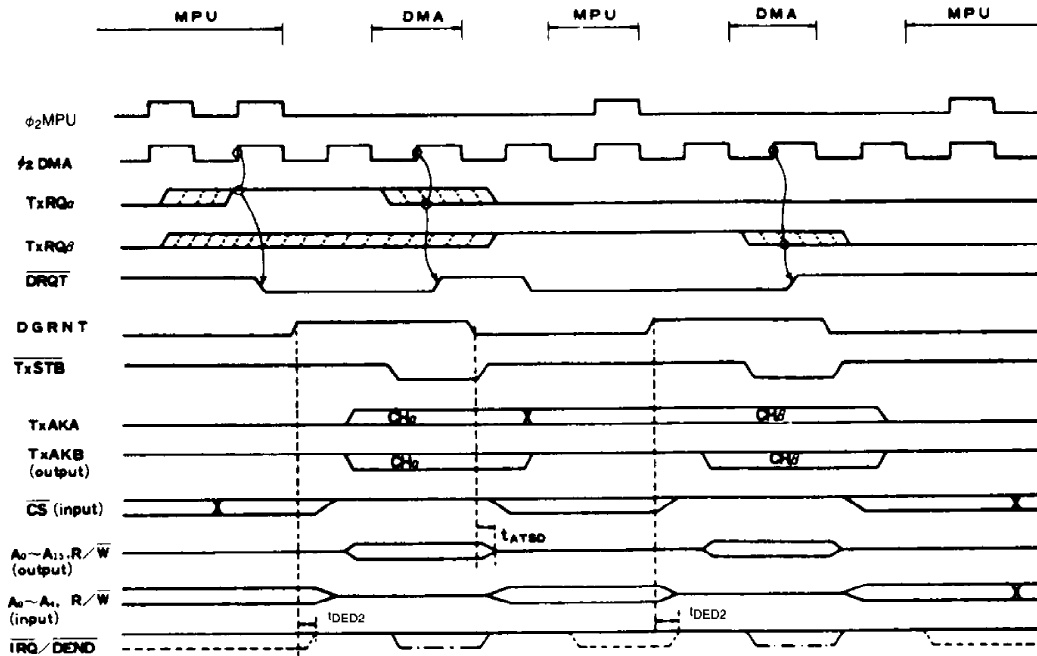
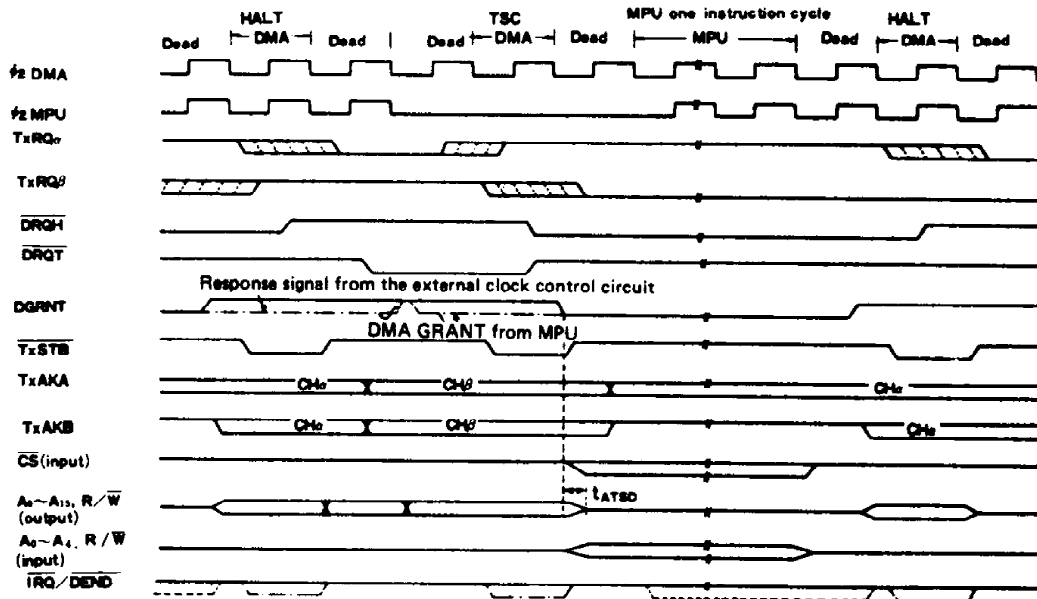
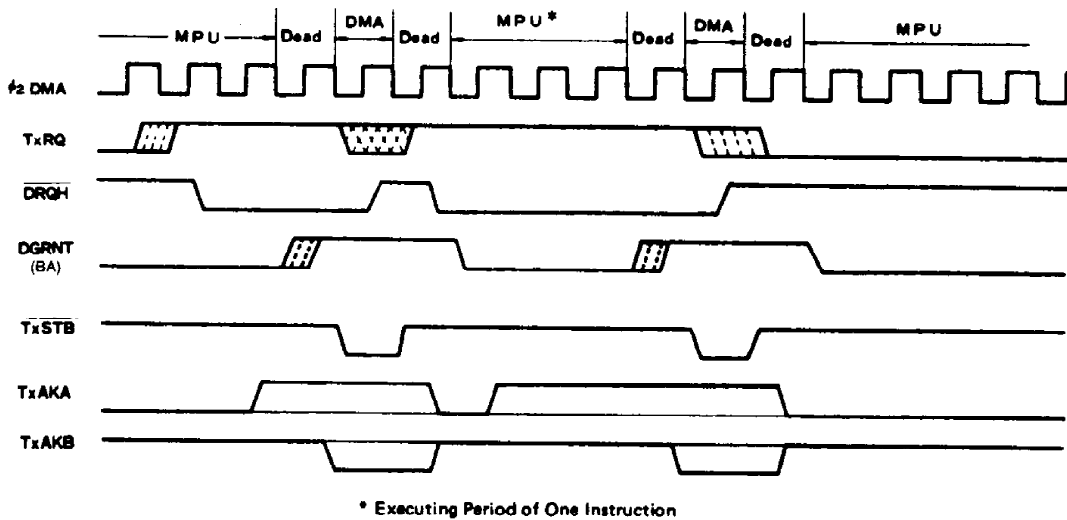

Figure 24 Channel Change (TSC Mode → TSC Mode)
Figure 25 Channel Change (HALT Mode → TSC Mode → HALT Mode)
Figure 26 Successive 2-byte Transfer of One Channel (HALT Cycle Steal Mode)
- (2) From TSC mode to TSC mode (Fig. 24)
- (3) From HALT mode to TSC mode
- (4) From TSC mode to HALT mode
- } (Fig. 25)
Both in the case of HALT → TSC mode and in the case of TSC → HALT mode, DMA operation timing is based on the same idea as the above two kinds of mode change. (In detail, see Fig. 25).
The timing in the case where the next byte is transferred without changing the channel is shown in Fig. 26. This is the case of HALT → HALT mode. In this case, the bus control returns to MPU, before the next byte is transferred. In the case of TSC → TSC mode, its timing is almost the same as than in Fig. 24, that is, after 1-byte transfer has completed, MPU executes the Instruction Cycle for one clock and then DMAC executes 1-byte transfer again.